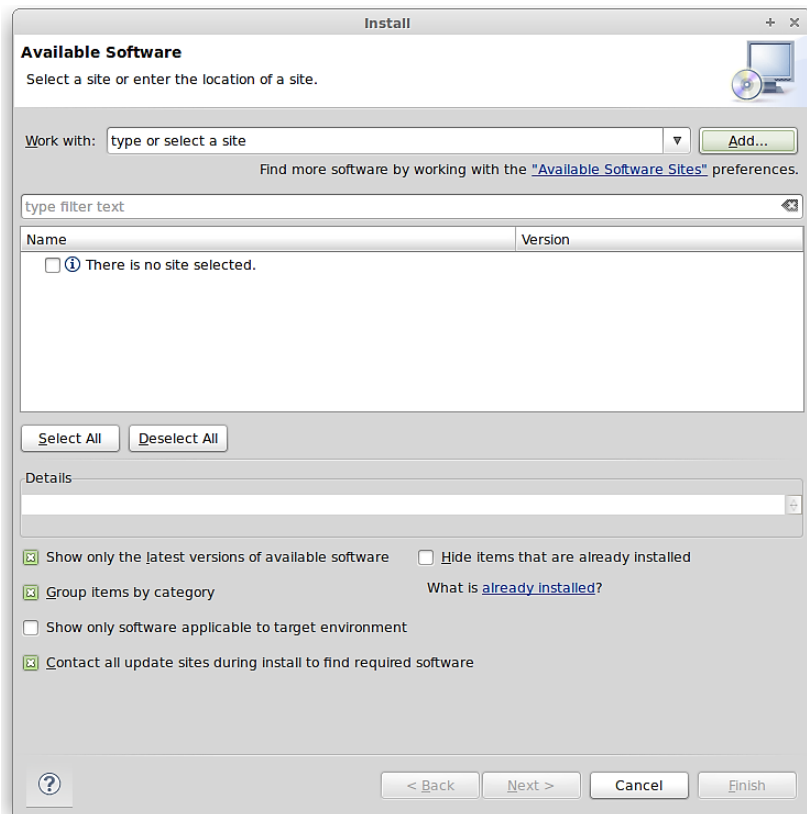

Figure 10: Installing Eclipse EGit Plug-in (continued)
- Click on the "Add" button, as shown in Figure 10.